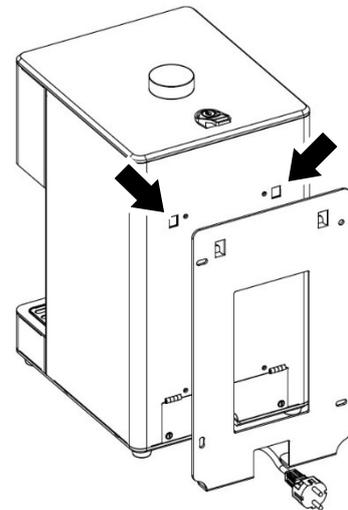

Figure 5. Wall Mount Bracket
4. See Figure 5. Hang the Santinel on the bracket by passing the two cutouts (arrowed) in the rear of the Santinel housing over the hooks in the bracket and lowering the Santinel until both hooks engage in the cutouts and hold the Santinel on the bracket.